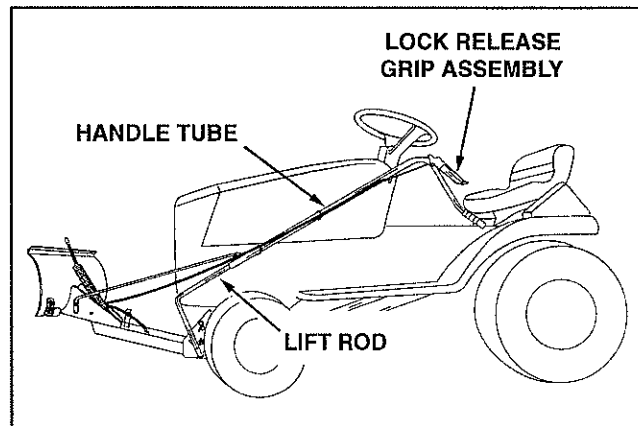

FIGURE 21
2. To unlock the blade, raise the blade to transport position. Push the lock release grip down against the handle tube to pivot the blade. Keep the grip depressed and push forward or pull back on the handle tube, sliding it along the lift rod. Release the grip to lock the blade when it is in either the right hand, the left hand or the straight ahead position. See figure 21.